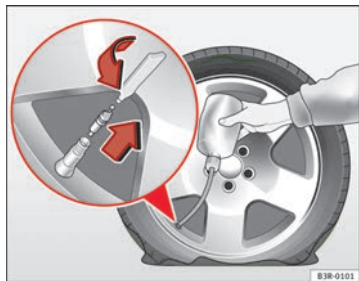

Fig. 184 Repairing a tyre
- Take the valve cap off the tyre valve and use the enclosed valve insert tool to unscrew the valve insert ⇒ fig. 184.